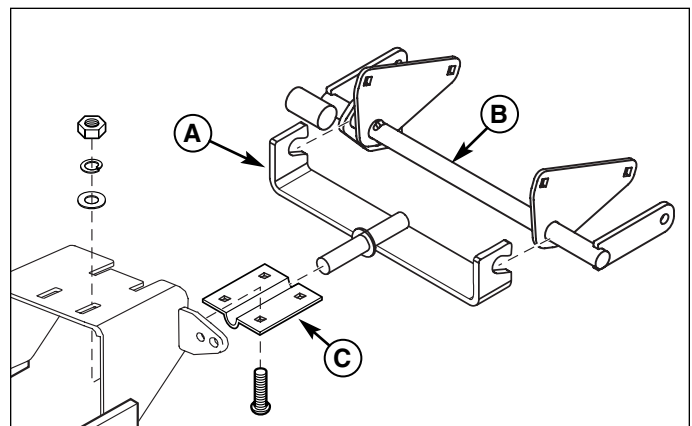

Figure 10. Install Support Plate
1. Hang support plate (A, Figure 10) onto shaft assembly (B).
2. The post on the support plate (A) fits between the clamp support (C) and hitch assembly (D). See Sub-Frame Hitch Installation Instructions for details on installing sub frame.